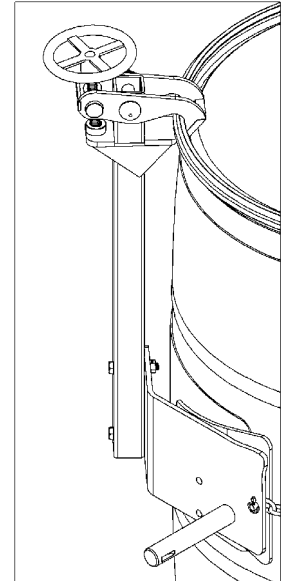

Figure 2.2
- To handle a 55-gallon (210 liter) plastic drum with suitable top rim, you **must** install either the Bracket Assembly or the Top Rim Clamp (Kit # 4560M-P) (see figure 2.2). You can use the Top Rim Clamp to handle a 55-gallon plastic, steel or fiber drum with suitable top rim.